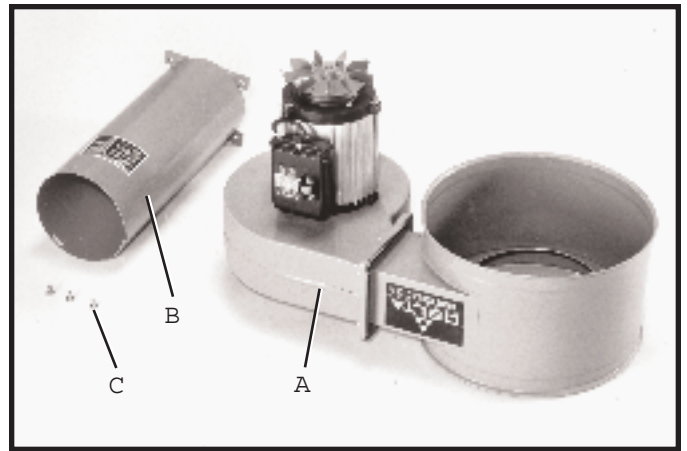

Fig. 5
- 1 Place the motor and blower assembly (A) Fig. 5, upside down on a sturdy supporting surface.
- 2 Find the support tube (B) Fig. 5, and three 1/2 inch-long hex head screws (C).